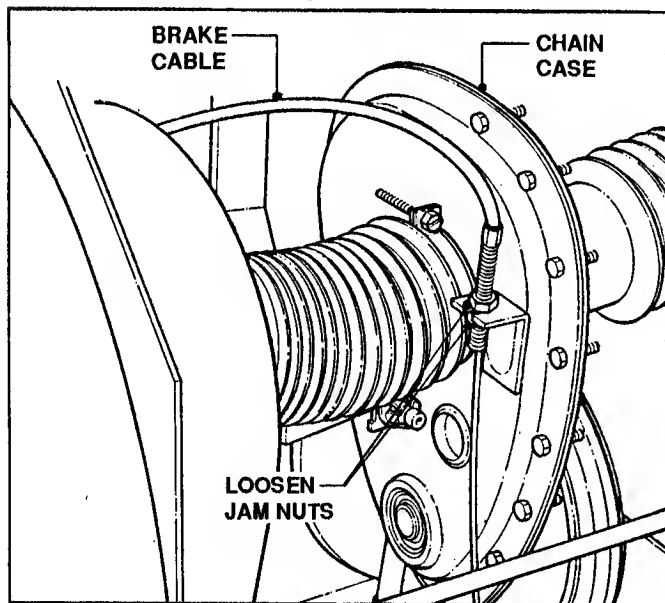

FIGURE 4.18
4. If measurement is less than  $3/16$ " or greater than  $7/16$ ", loosen the two jam nuts holding the clutch/brake cable to the chain case bracket. See Figure 4.18.